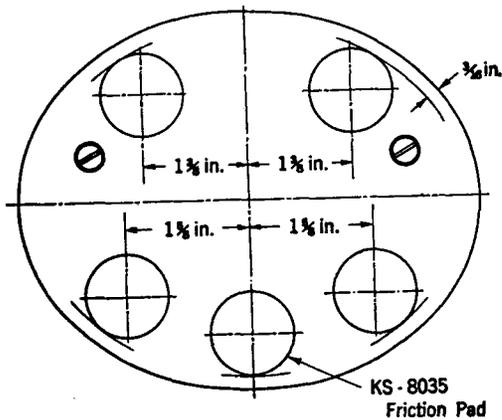

Fig. 3—D Type Hand Set Mounting.
- 5.03 The approximate locations on the hand set mounting base at which the friction pads per KS-8035 shall be attached are indicated in Figs. 3, 4 and 5.